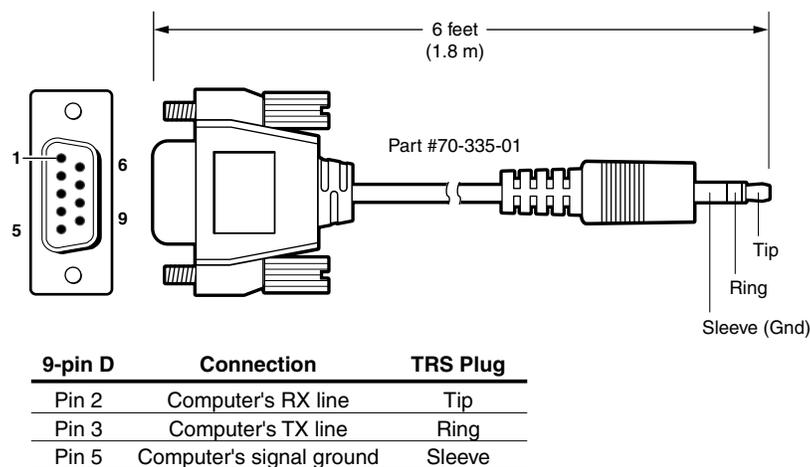

Figure 2-25 — Optional 9-pin TRS RS-232 cable
- ⑬ **Configuration port** — This 2.5 mm mini stereo jack serves the same serial communications function as the rear panel Remote port, but it is easier to access than the rear port after the matrix switcher has been installed and cabled. The optional 9-pin D to 2.5 mm mini jack TRS RS-232 cable, part #70-335-01 (figure 2-25), can be used for this connection.